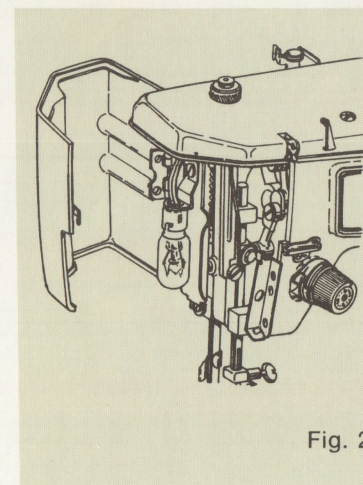

Fig. 2
2. Stitch forward until you reach the marked end of the buttonhole. While maintaining a slow constant speed, turn the Stitch Width-Buttonhole Control clockwise (Fig. 2) until it stops as shown in Fig. 3 above.